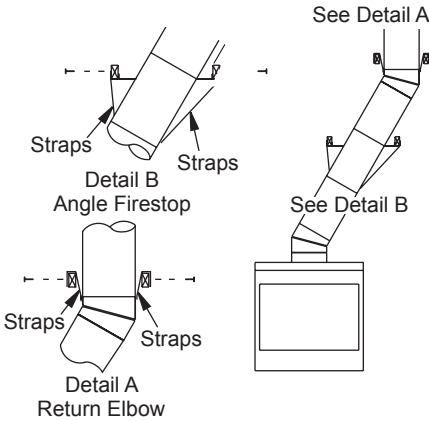

Figure 12 - Ceiling Support Pipe 12S-8DM
When installing double wall snap-lock chimney together, it is important to assure joint between chimney sections is locked. Check by pulling chimney upward after locking. Chimney will not come apart if properly locked. It is not necessary to add screws to keep chimney together (exception, see Figure 12, page 8).
2. Chimney weight above offset rests on return elbow. Straps must be securely nailed to rafters or joists (see Figure 12, details A and B, page 9).